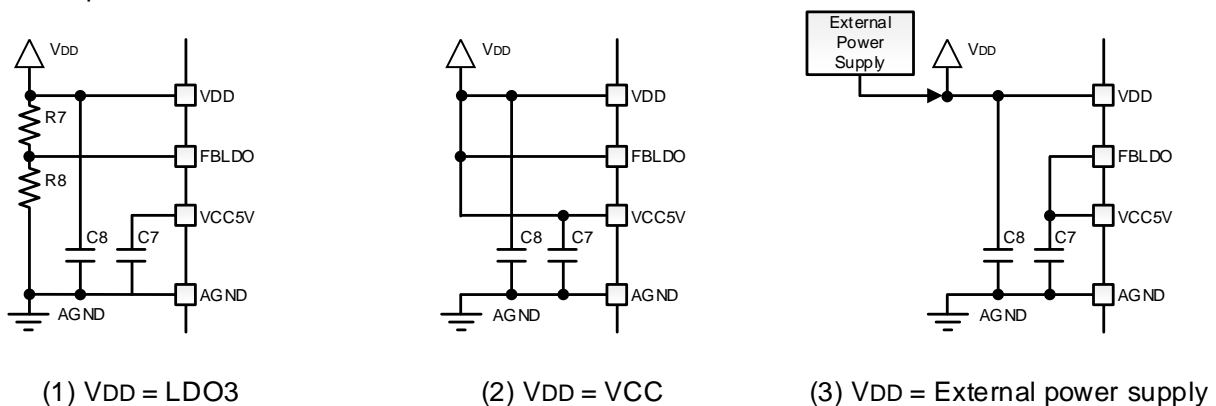

Figure 4-2 VDD Pin Voltage Supply Methods
(1) Supply using LDO3
The external connection and components are shown in **Figure 4-2 (1)**. The LDO3 output voltage VDD is determined by the bleeder resistors (R7, R8) that are fed back to the FBLDO pin, allowing fine adjustment of the output voltage within the recommended operating conditions. The bleeder resistors should be selected based on **EQ 4-1**. Increasing the total value of the bleeder resistor can reduce the current consumption in Sleep Mode. However, note that the stability is reduced by the pole determined by the parasitic capacitance of FBLDO pin and the bleeder resistors.
(2) Supply 5V from the VCC pin
The external connection and components are shown in **Figure 4-2 (2)**. A $0.1\mu\text{F}$ ceramic capacitor is recommended as a decoupling capacitor (C8) for the VDD pin. This capacitor should be placed as close as possible to the VDD and AGND pins.
(3) Supply using an external power supply
The external connection and components are shown in **Figure 4-2 (3)**. Connect an external power supply to the VDD pin. Also, connect the FBLDO pin to the VCC pin. Note that the recommended operating voltage range VDDope for the VDD pin voltage is limited from 3.135 to 5.25V. A $0.1\mu\text{F}$ ceramic capacitor is recommended as the decoupling capacitor (C8) on the VDD pin. This capacitor should be placed as close as possible to the VDD and AGND pins.